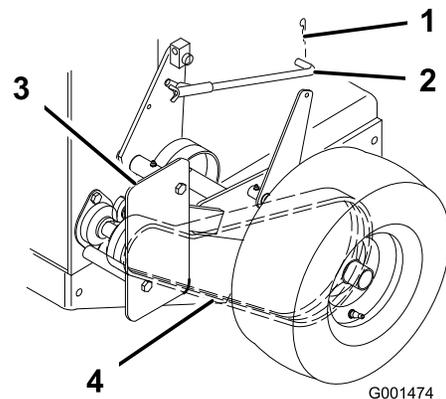

Figure 38
1. Remove hairpin cotter securing brake rod to brake arm to relax belt idler tension (Figure 38).
2. Remove bottom and loosen top bolts of shield to rotate for belt clearance (Figure 38).
3. Lift the belt past idler and off the drive pulley (Figure 38).
6. Secure shield with previously removed bolt and tighten bolts (Figure 38).
7. Secure brake rod to brake arm with hairpin cotter (Figure 38).